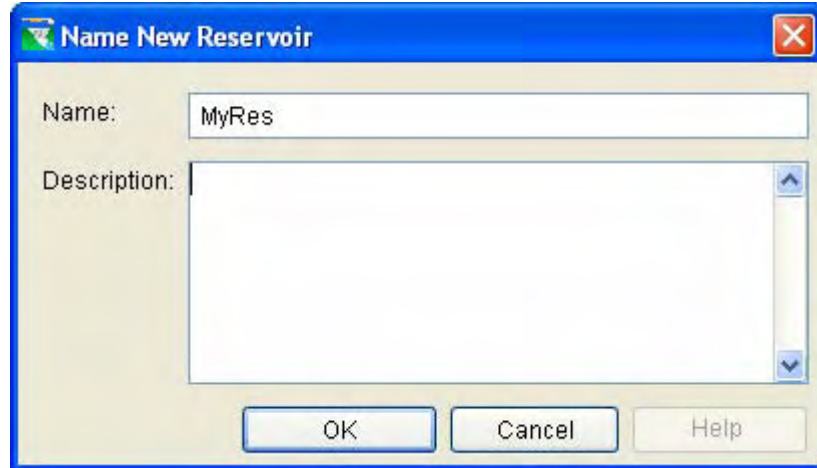

Figure 6.2 Name New Reservoir
4. When you release the mouse button after creating the downstream end of the reservoir, the **Name New Reservoir** dialog box appears (Figure 6.2).